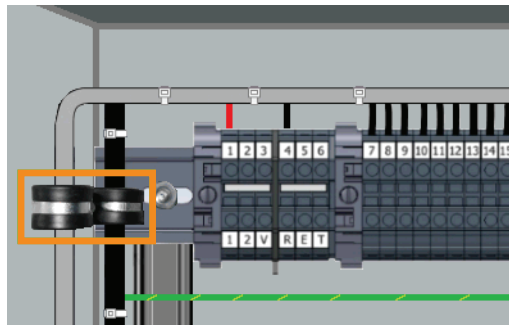

Figure 4 Secure Terminal Block Wires
- Step 4. Install wire clamps to the side of the cabinet with a nut and route wires (red, black, and all the other wires/wire assemblies already attached to the terminal block) through them. See *Figure 4*.